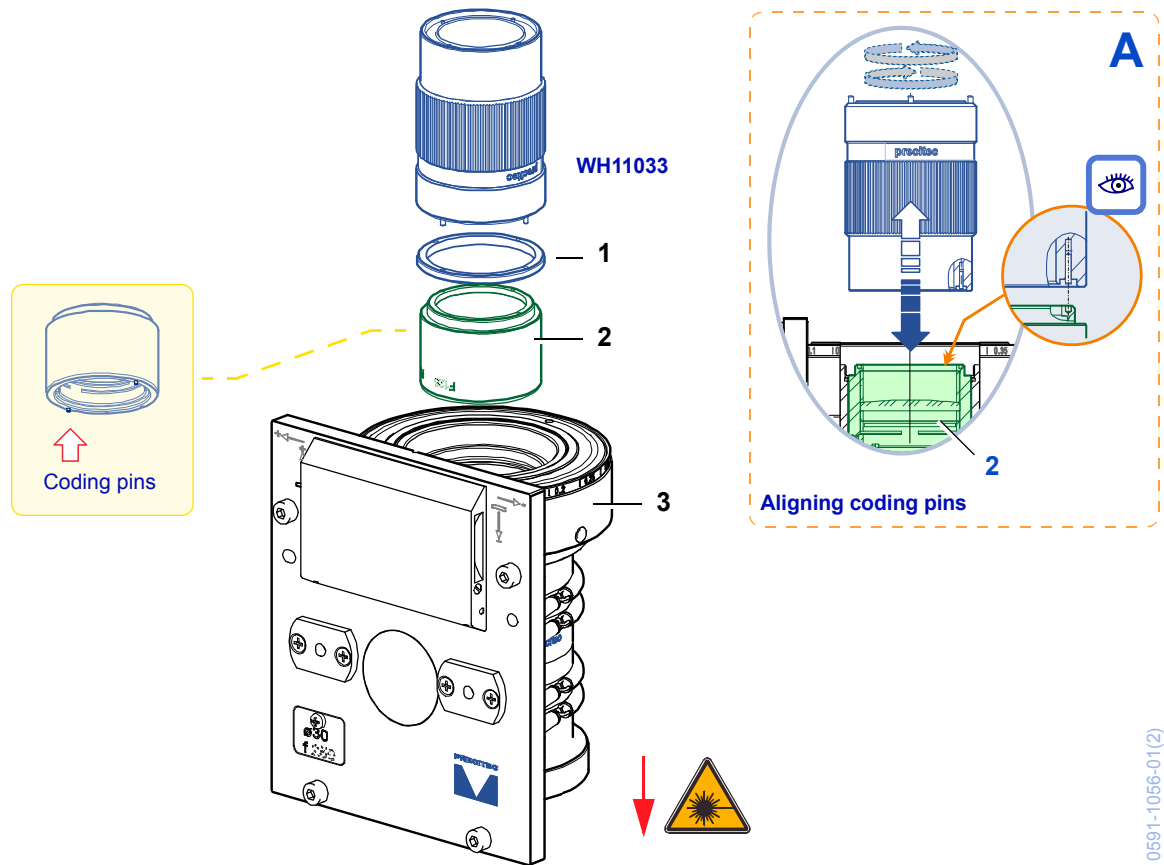

Fig. 5-9 Maintenance: Lens holder F200/ F250 (focusing optics)
2. **Insert the lens holder with the coded pins (focal length identification) facing downwards into the cartridge (3). Align it using the auxiliary tool (WH11033, rotated by 180°) until the coded pins engage into the cartridge (3)** (see A, Fig. 5-9).